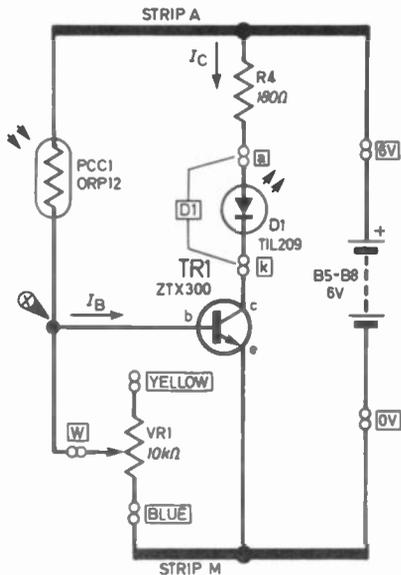

Fig. 5.5. Circuit for demonstrating a light operated transistor switch.
In Fig. 5.5, PCC1 is a light-dependent resistor (l.d.r.). This is a piece of semi-conducting material such as cadmium sulphide. When light falls on it, electrons in the atoms become excited and some escape from their orbits. They become charge carriers, allowing current to flow more easily through the material. The resistance of PCC1 decreases when the amount of light falling on it is increased.
3. How would the circuit of Fig. 5.5 act if you interchanged PCC1 with VR1?